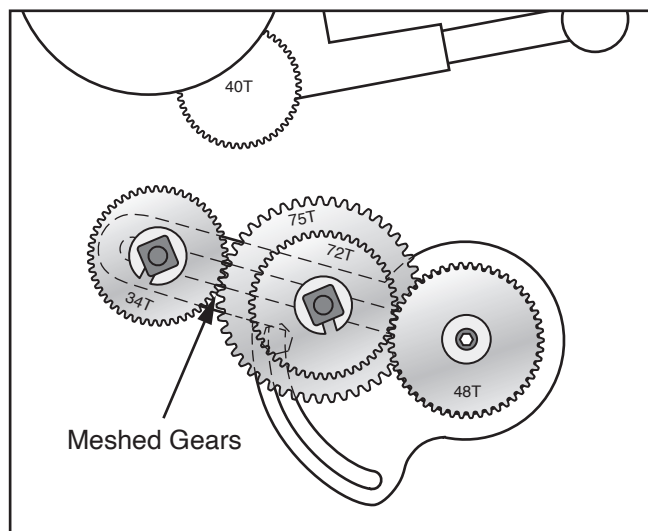

Figure 94. 34T gear meshed with 75T gear.
14. Slide upper 34T gear against middle gear assembly (see **Figure 94**) until 34T gear meshes with 75T gear with 0.002"–0.004" backlash, then tighten upper gear shaft to secure.